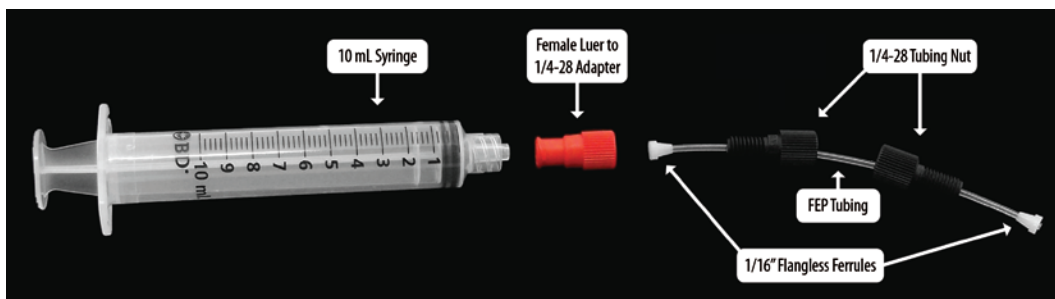

Figure 1. Flushing apparatus connections.
- Refer to **Figure 1** to identify the parts of the flushing apparatus.